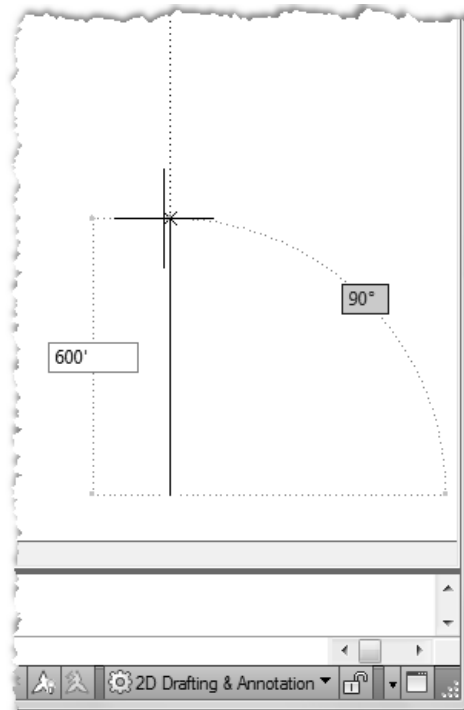

Figure 2-1.11 Drawing another line with the help of Polar Tracking
22. Move the crosshairs (i.e., mouse) straight up from your first point so that *Polar Tracking* activates (Figure 2-1.11).